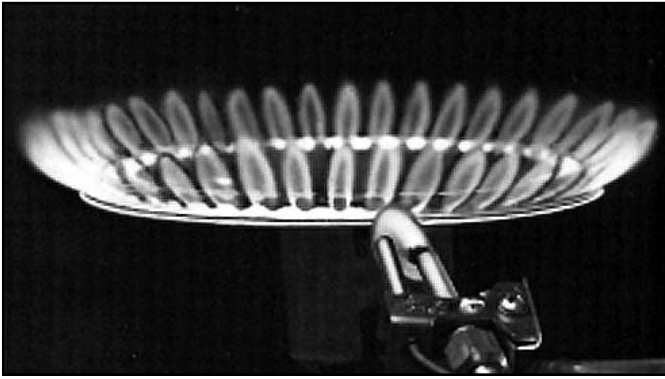

Figure 5. — Main Burner and Pilot Flame Pattern
B. Visually inspect the burner annually while firing and pilot burner flame with main burner off. (Refer to Figure 5 for normal flame pattern.) If any unusual burner operation is noted, the water heater should be shut off until qualified service assistance can be obtained. Please contact a local